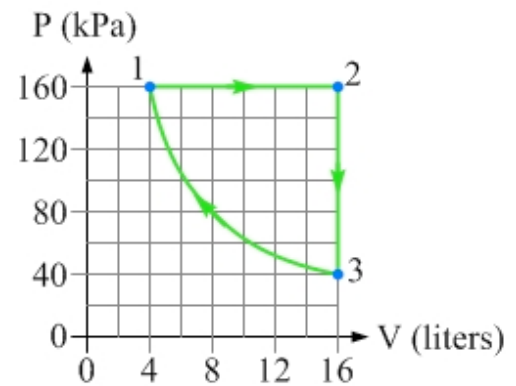

Figure 15.29: A three-process cycle, for Exercises 33 and 34.
33. Consider the P-V diagram for a three-process cycle in Figure 15.29. The cycle consists of a constant pressure process, a constant volume process, and an isothermal process at a temperature of 500 K. The system consists of a particular amount of a diatomic ideal gas. For this cycle, construct a table like that shown in Table 15.6.
34. Consider again the situation described in Exercise 33, and shown in Figure 15.29. What happens to all the values in the table when the cycle is carried out in the direction opposite to that shown in the P-V diagram, going from state 1 to 3 to 2 to 1?